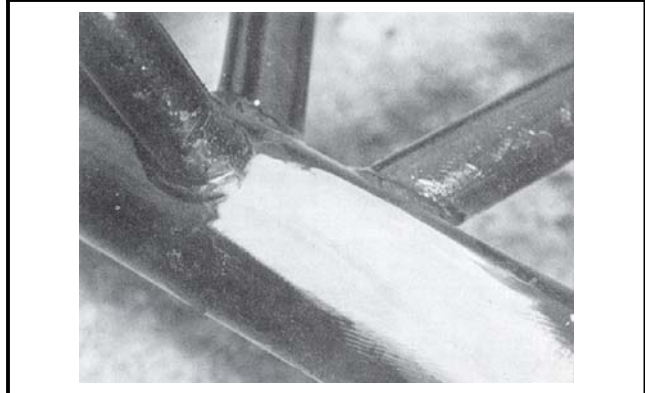

Figure 19
4. Using a fine (80- 100 grit) resin backed disc, polish the weld area to a bright clean metal. See Figure 19.